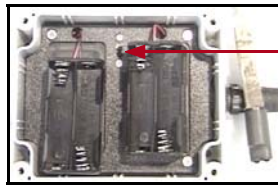

Fig 1 Beam Break Emitter
2. For indoor set-up, slide the emitters' high/low switch to the low power (DOWN) position. For outdoors, slide the emitters switch to the high power (UP) position (See Fig 1). Position the emitter and the receiver at least 10 feet apart especially if working indoors.